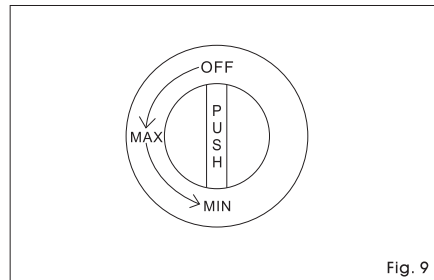

Fig. 9
3. Place the gas control knob onto the gas cock axis and push it inwards firmly. (Fig. 9 )